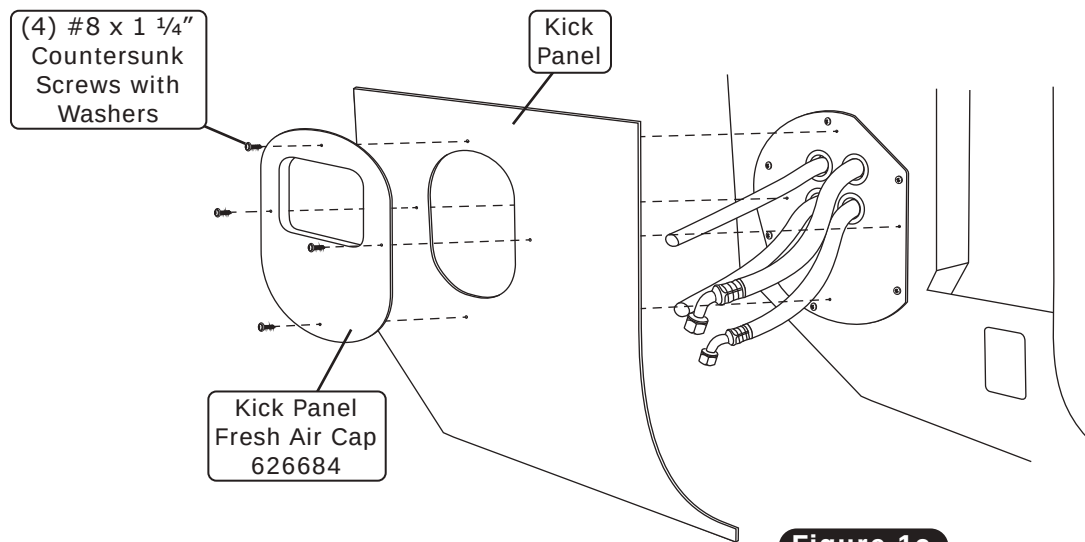

Figure 1c
4. Reinstall kick panel (See Figure 1c, below).
5. Secure kick panel fresh air cap to kick panel using (4) #8 x 1 1/4" countersunk screws with washers as shown in Figure 1c, below.